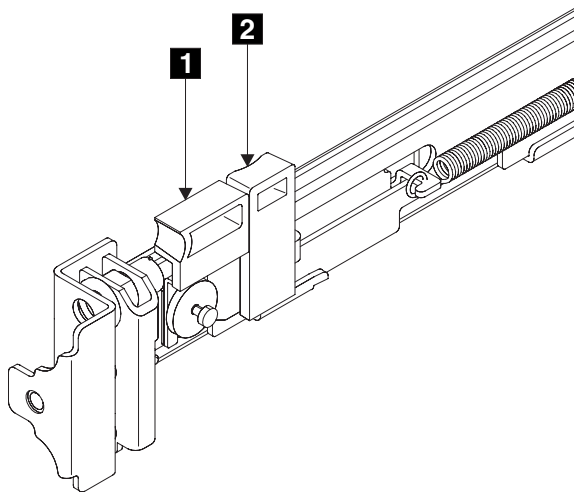

Figure 80. Retracting the latch lock carrier
2. Put your finger against the side of the latch-lever **1** and put your thumb against the front of the latch-lock **2**. See Figure 80.